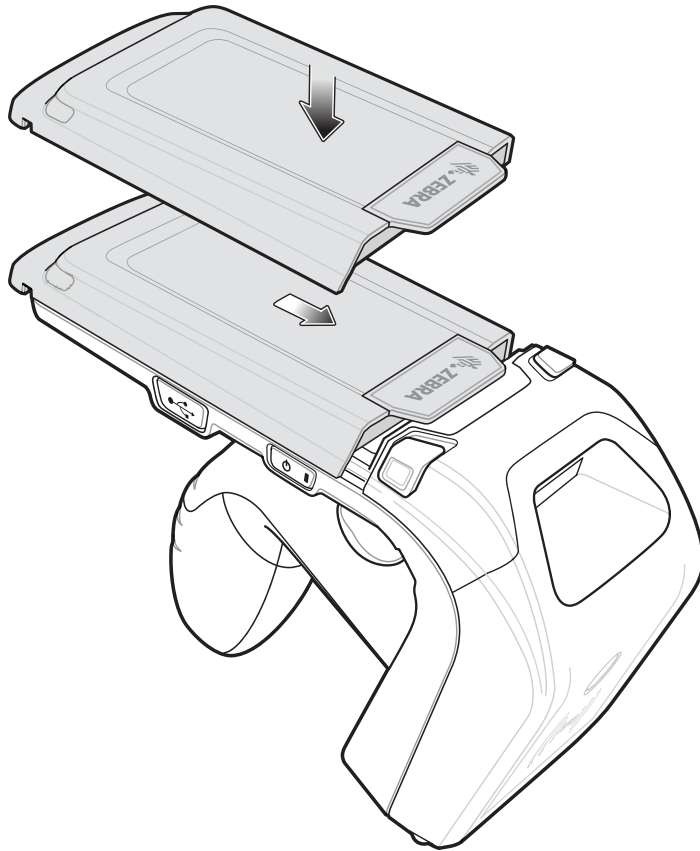

Figure 1-6 *Replacing the Battery Cover*
5. Replace the battery cover as shown in Figure 1-6 on page 1-6.